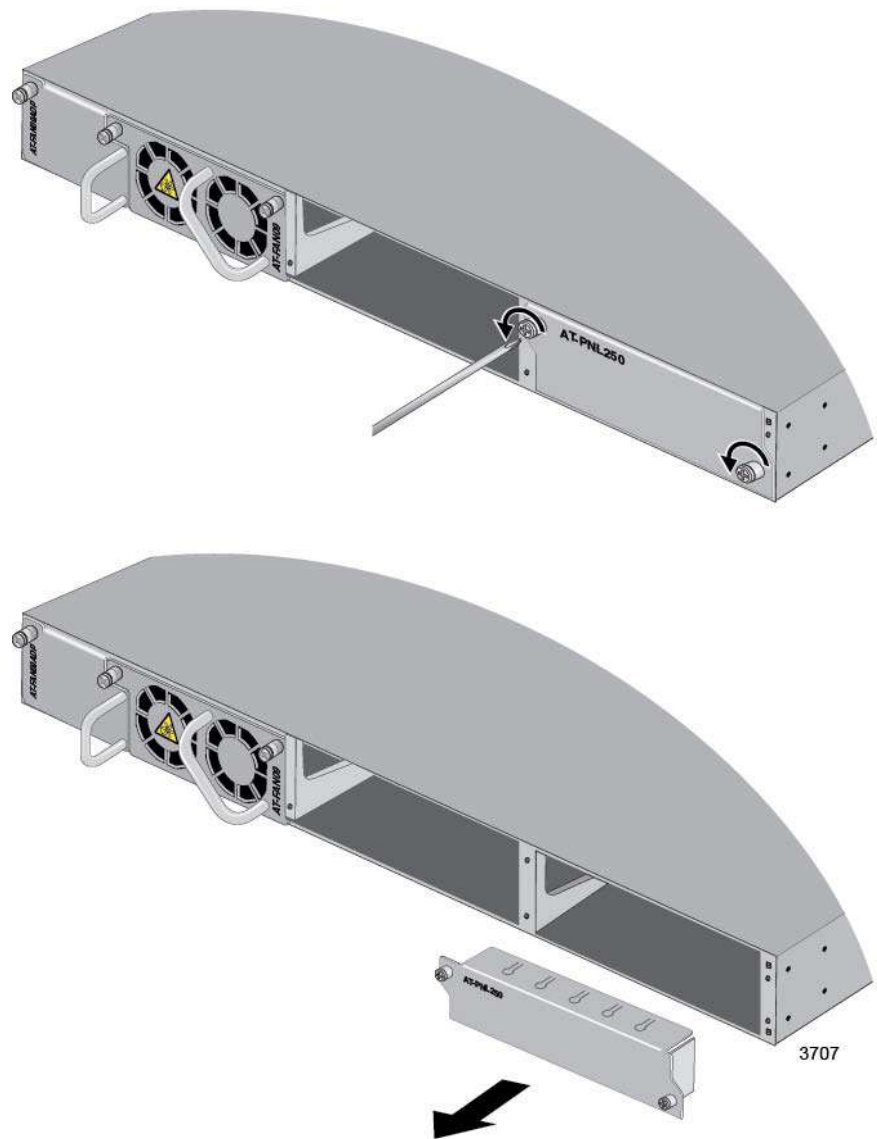

Figure 20. Removing the AT-PNL250 Blank Panel
2. Use a cross-head screwdriver to loosen the two captive screws on the AT-PNL250 blank panel covering power supply slot B on the back panel and remove it from the switch. Refer to Figure 20 on page 67.